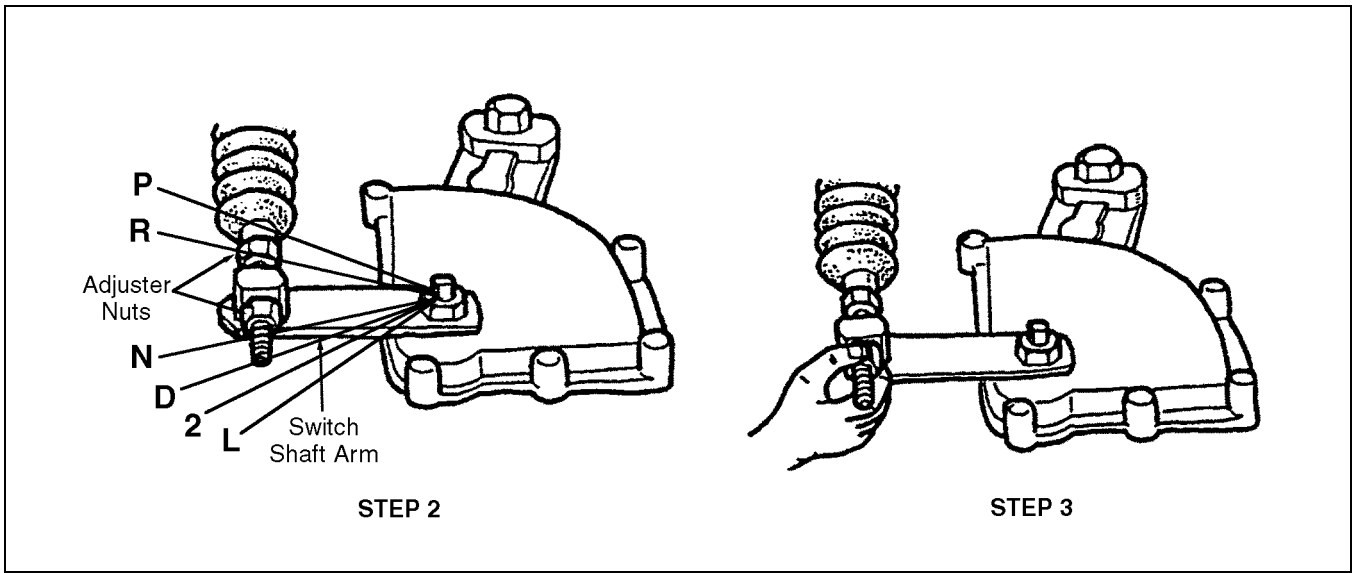

Figure 2C-21. Shift Selector Adjustments
**SERVICE BRAKES (See Figure 2C-22)**